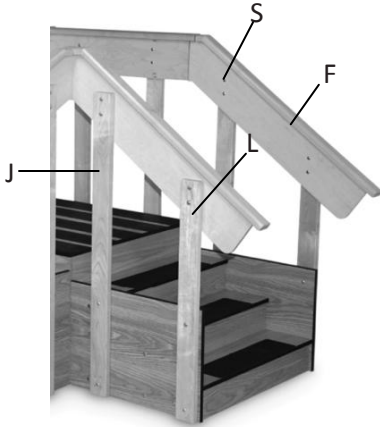

Figure 9: Medium Handrail 'F'
12. Attach the Medium handrails 'F' on the inside part of the 'J' & 'L' uprights so that Barrel bolts 'S' on the handrails should be facing inwards using Pan Head/Philips screw 'R' with Flat washer 'U' as shown in Figures 9.